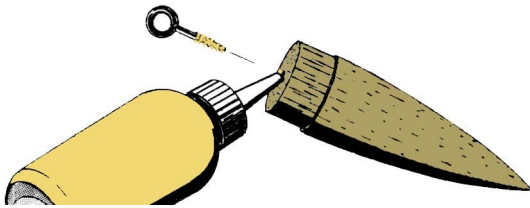

Figure 7
- **Step 10** Use the screw eye to cut threads into the base of the nose cone, then carefully reverse the screw eye out of the hole. As shown in Figure 7, apply glue to the threads of the screw eye, and force glue into the hole. Re-insert the screw eye until it bottoms out. Do not wipe away the glue that squeezes out. Let the glue dry with the nose cone pointed downward.